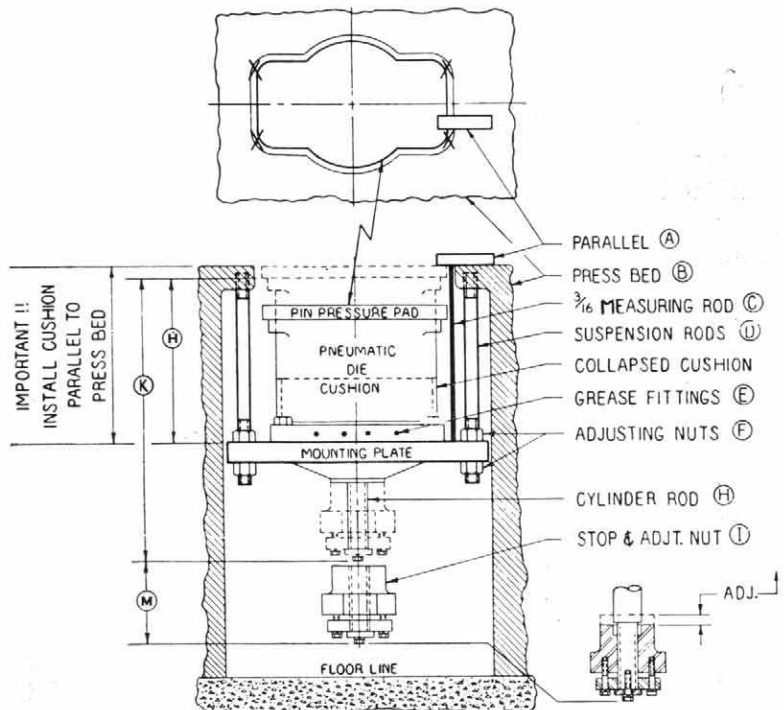

Fig. No. 10
NOTE: Dimension "M" equals the maximum draw **only** when adjustment nut is **fully extended**. (See Fig. No. 10, P. 7.)
(1) Remove the bolster plate and check both surfaces carefully to make sure they are flat and parallel. **THIS IS IMPORTANT!** If surfaces are bowed and not parallel, have them machined so that the pin pressure pad of the cushion will have an accurate surface to stop against.
(2) Screw the ends of the suspension rods, "D", (See Fig. No. 10) with the short length of thread into the drilled and tapped holes in the press bed, which have been provided for mounting the die cushion. (See P. 2.) Make sure these rods are pulled up as far as they will go into the tapped holes. If the cushion is to be suspended from mounting bosses that are not tapped, the mounting rods are provided with nuts on both top and bottom of the bosses.
(3) With the use of skids or timbers, slide the cushion unit into the approximate location relative to the press bed opening. (NOTE: If the distance between the mounting rods at the front of the press bed is not enough to allow the cushion to pass between them, it is advisable to leave them out until after the cushion has been placed under the press bed opening.
(4) Run on the upper adjusting nuts, "F", as far as they will go. Raise the cushion unit so that the rods pass through the holes in the mounting plate or mounting channels and run on the lower adjusting nuts, "F".
(5) Prepare a measuring rod, "C" from 3/16" round steel for adjusting the height and alignment of the cushion unit. The over-all length of this rod should be equal to the over-all height of the cushion, "J", when expanded, plus the thickness of the pin
(6) With a large parallel, "A", laid on top of the press bed, (See Fig. No. 10) line up the supporting structure at the four points marked, "X", by using the measuring rod, "C". The adjustment and alignment of the mounting plate at these four points must be held to a maximum tolerance of 1/64" to avoid a tilting action. After this adjustment is obtained, lock the upper adjusting nuts on the mounting plate, which will secure the cushion unit in correct parallel alignment and relative height in connection with the top of the press bed.
NOTE: Dimension "M" equals the maximum draw **only** when adjustment nut is **fully extended**. (See Fig. No. 10)